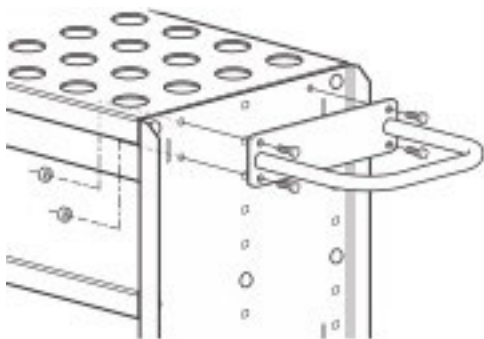

Figure 4-12
2. Using four M8 x 25 Hex Flange Bolts (item #5) with M8 Flanged Nylock Hex Nuts (item #2), attach the Handle (item #6) to the Side Panel (item #4) as shown in Figure 4-12. Note: The top two bolts will pass through the Tooling Insert Tray. **Do not fully tighten nuts at this time.**